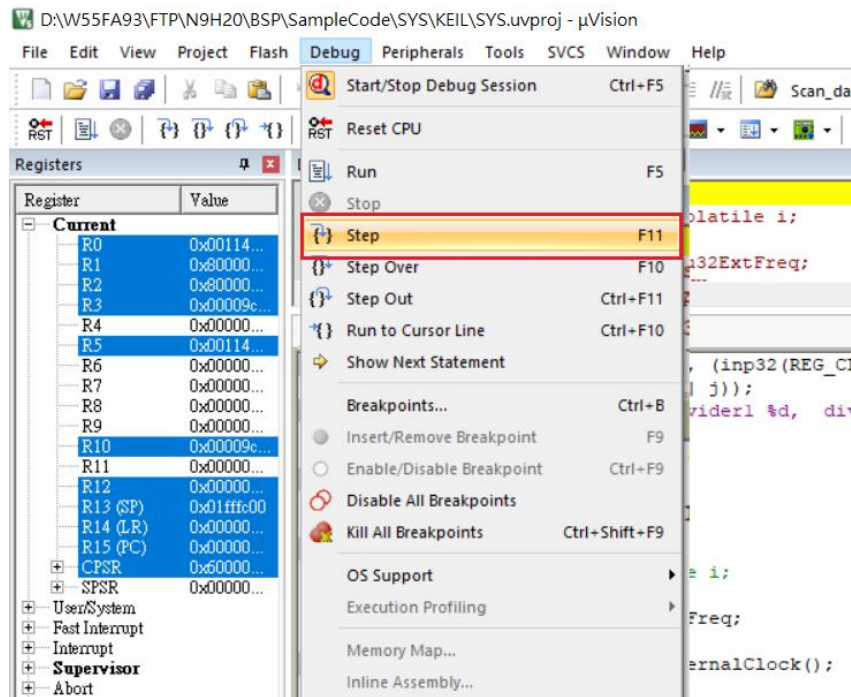

Figure 2-9 Step & Step Over
2. Step & Step Over the function call as shown in Figure 2-9.